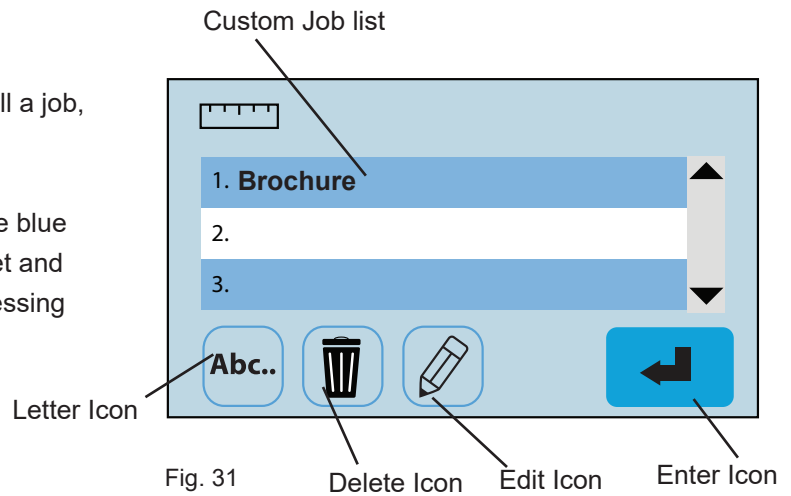
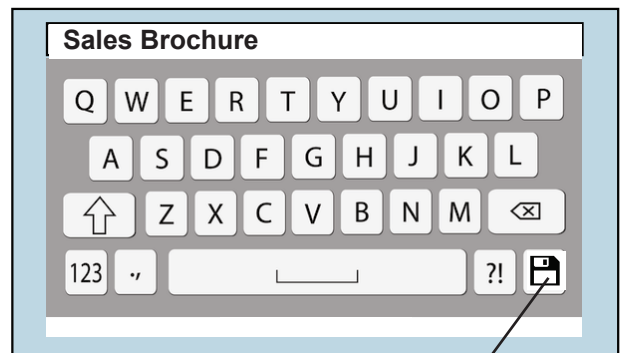
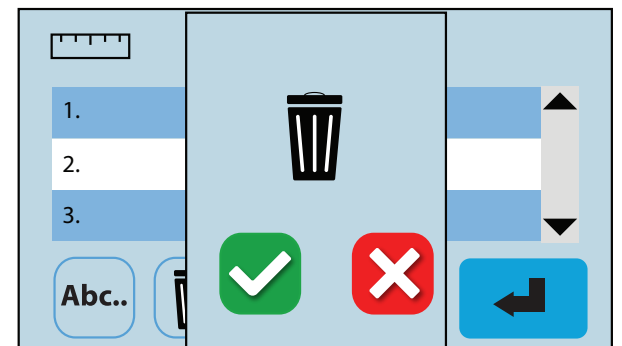
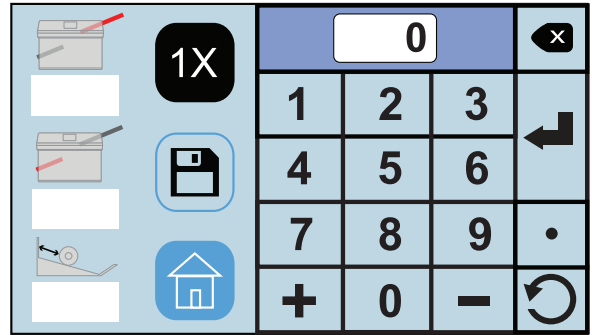

Fig. 31
Fig. 32
Fig. 33
Fig. 34
To recall select the job from the list and press the blue enter button  (Fig. 31). The fold will be set and then will return to the home screen to start processing the job.
3. To rename a job, select the job from the list and press the letter icon  (Fig. 31). Use the keypad to change the name and press the save icon in the lower right corner (Fig. 32).
4. To delete a job, select the job from the list and press the delete icon  (Fig. 31). On the confirmation screen press the green box with the check to confirm the deletion or press the red box with the X to cancel the deletion (Fig. 33).
- To edit a previously saved job, select the job from the list and press the edit icon  (Fig. 31). From the fold setup screen use the same process as setting a custom fold to edit the job settings (Fig. 34). See page 13 for measuring guidelines.